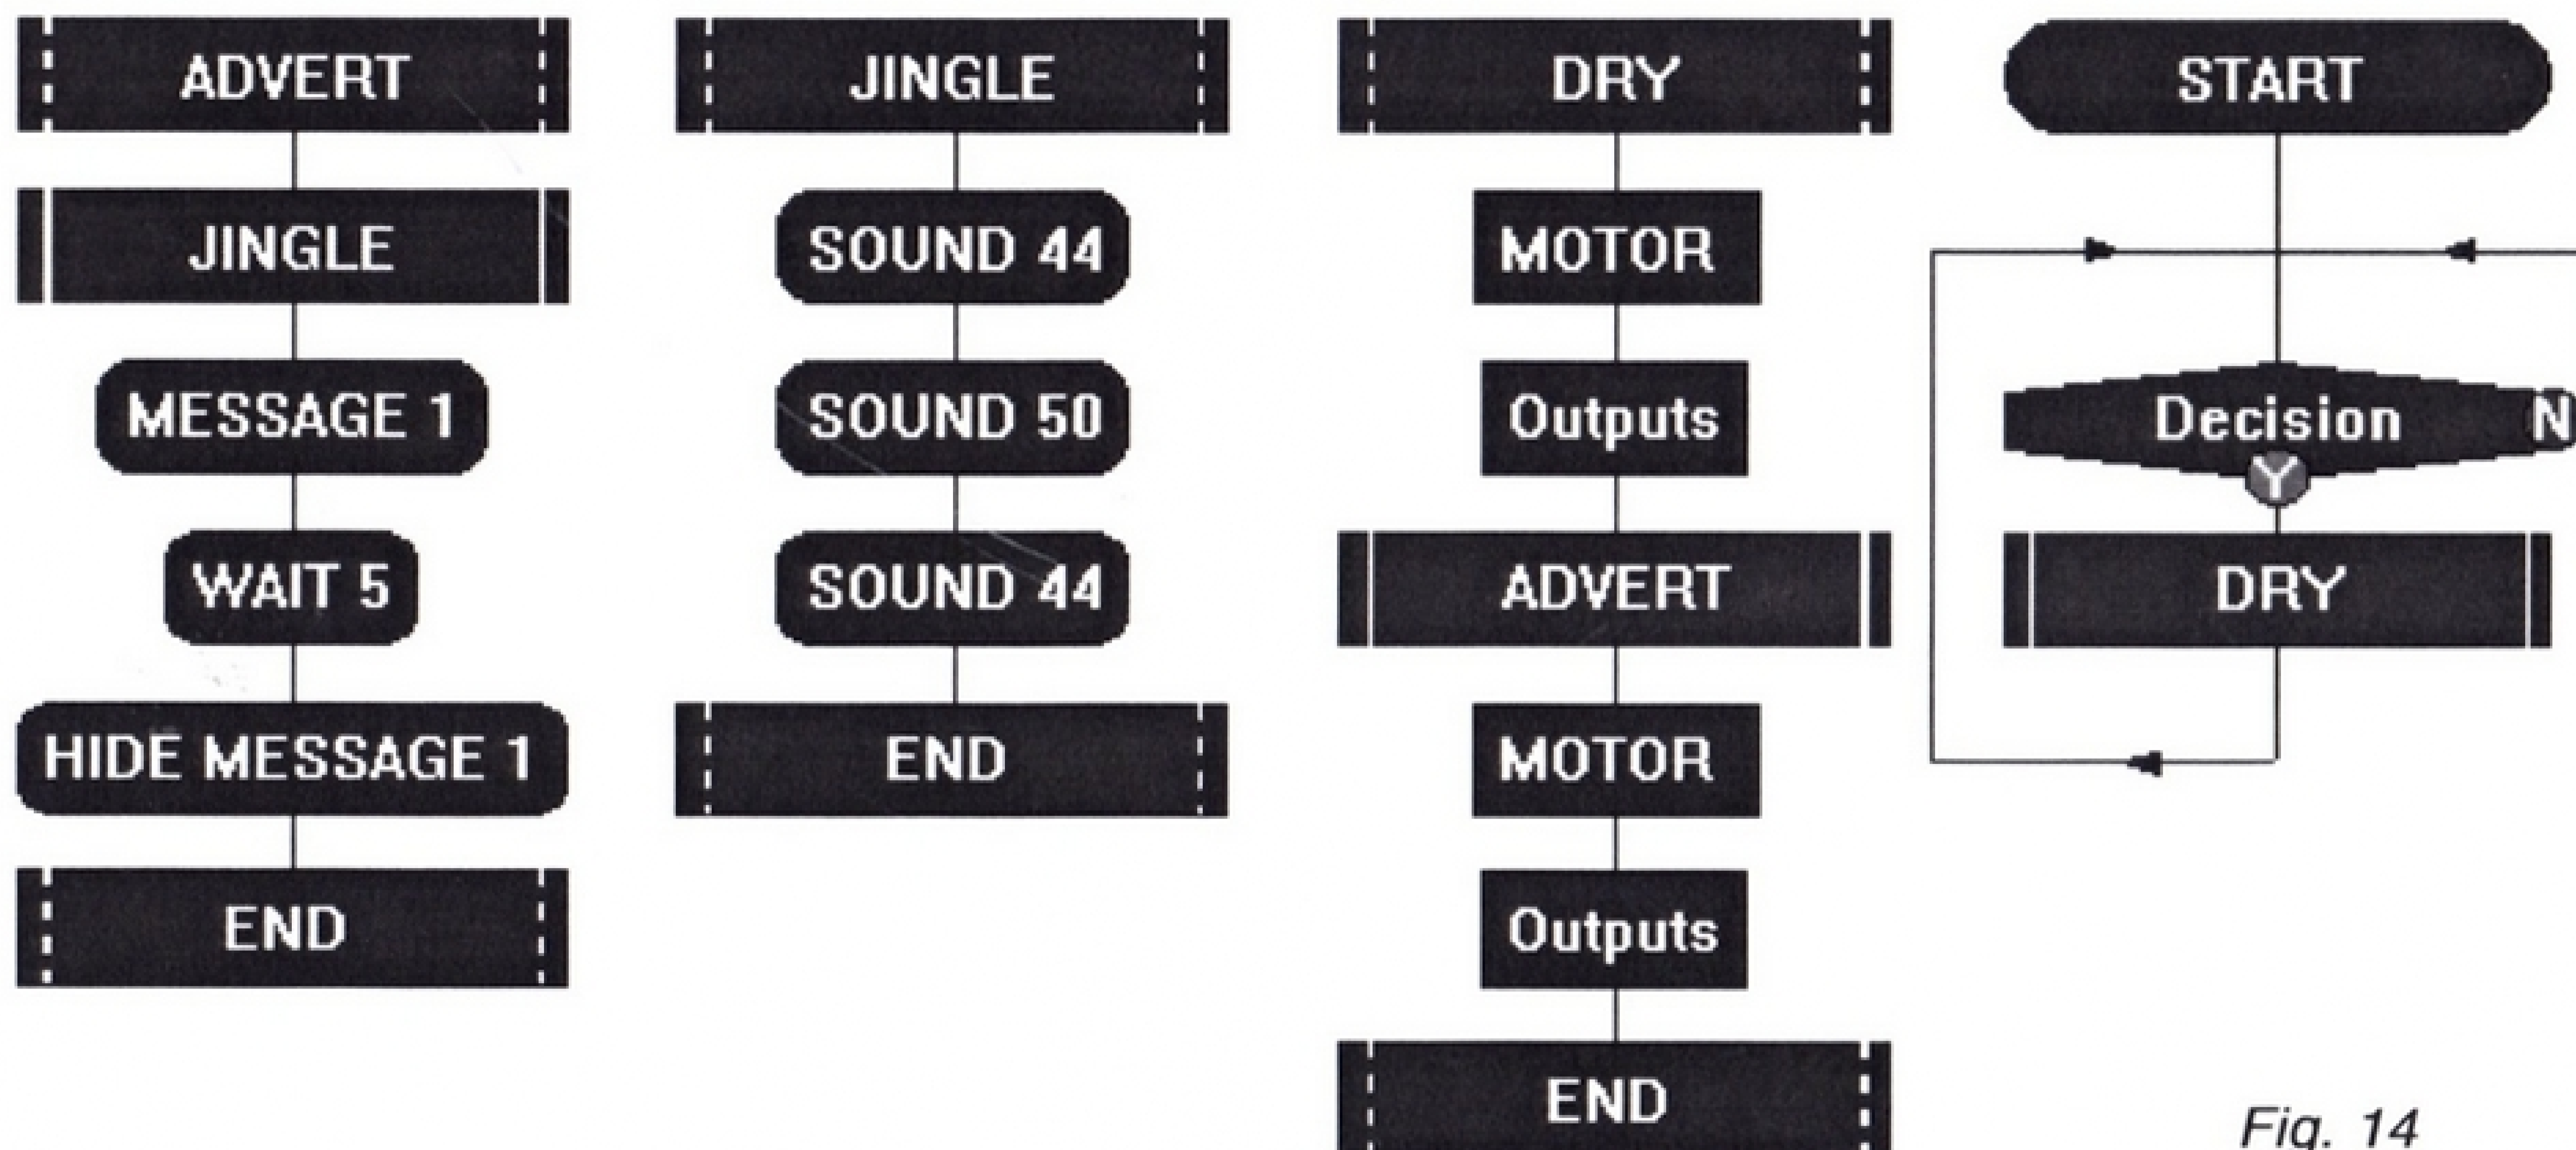

Fig. 14
4. Fig. 14 shows the complete system. Follow these instructions to help you to build it:
b. Delete the WAIT 5 command from the DRY macro and replace it by a Do Macro labelled ADVERT as shown in fig. 14.
c. Add a Do Macro labelled JINGLE into the ADVERT macro as shown in fig. 14.